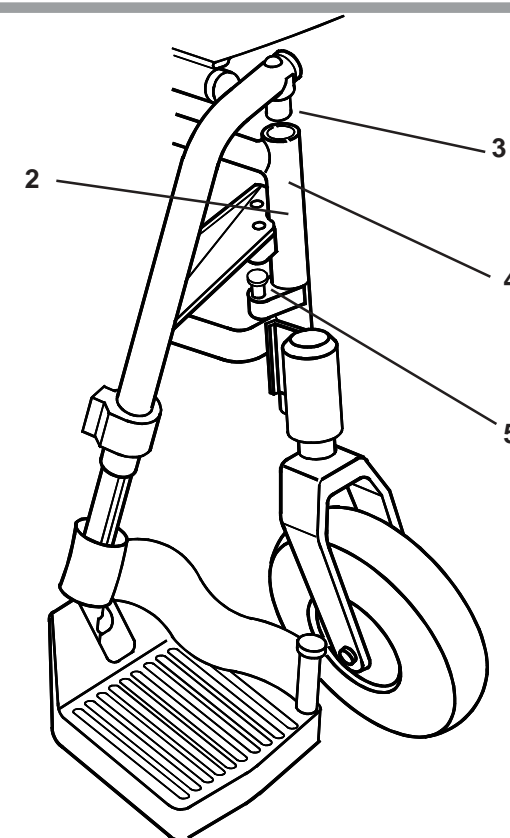

Fig. 15
To replace the footrest (Fig. 15), place the swingaway pivot saddle (3) into the receiver (4) on the frame (2) with the footrest facing outward from the frame. Rotate the footrest inward until it locks into place on the locking stud (5).